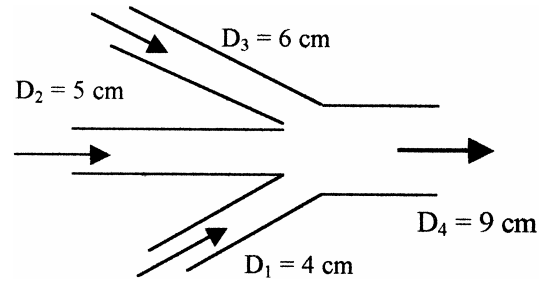

Fig. P3.8
3.8 Three pipes steadily deliver water at 20°C to a large exit pipe in Fig. P3.8. The velocity $V_2 = 5 \text{ m/s}$, and the exit flow rate $Q_4 = 120 \text{ m}^3/\text{h}$. Find (a) V_1 ; (b) V_3 ; and (c) V_4 if it is known that increasing Q_3 by 20% would increase Q_4 by 10%.